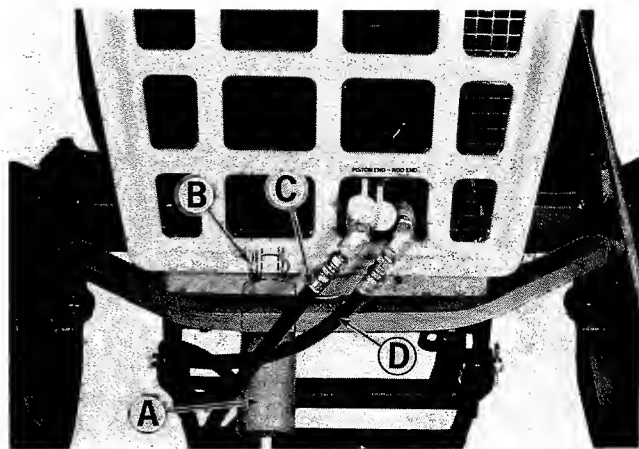

Figure 6. Hydraulic cylinder installed.
5. See figure 6. Attach the hydraulic cylinder (A) to the hitch assembly using a pin and spring clip (B). If the standard hydraulic cylinder which operates the tractor lift system is to be used, refer to page 4 for instructions on removing it.
4. See figure 6. Remove the hydraulic cylinder by disconnecting the hydraulic hoses at (C) and (D) and removing the pin and spring clip at (B).
5. See figure 6. Remove the spring clip and pin at (B) to release the hydraulic cylinder from the front hitch assembly.
7. See figure 6. Disconnect the hydraulic lines from the tractor by releasing the couplings at (C) & (D). The hydraulic cylinder can now be removed for use in controlling a rear mounted attachment.